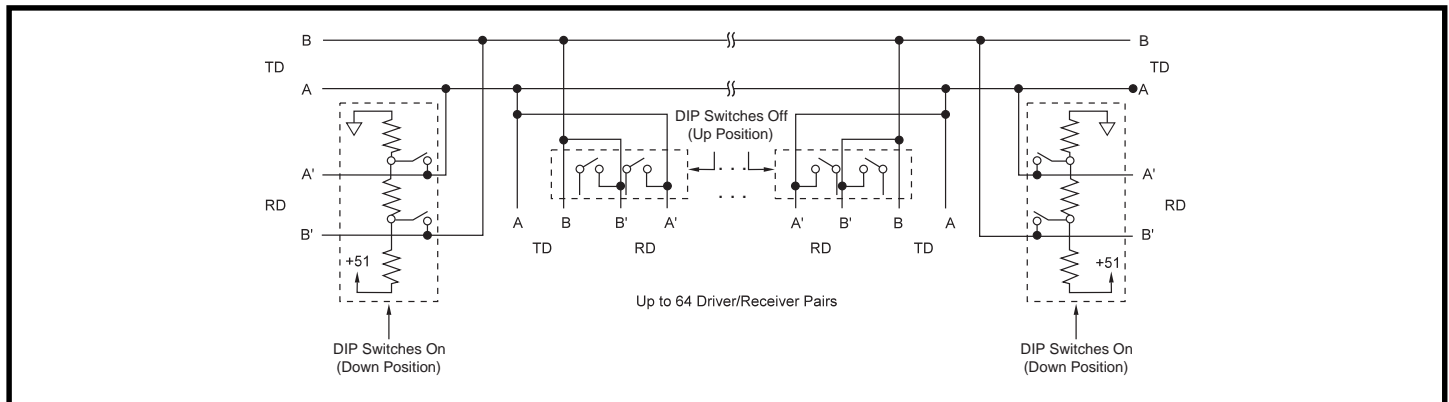

Figure 3: LDM485 Multidrop Wiring Connection
For multi-drop installations, the following points should be considered (see Figure 3 for multi-drop wiring connections):
4. The RS-485 line should be terminated at both ends using internal line termination DIP switches (see Figure 3). Stub length off the main line should be as short as possible.